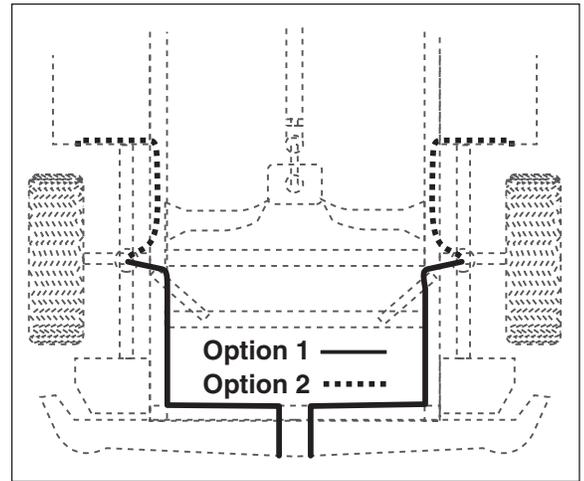

Figure 3
8. Select location on the vehicle for the air inflation valves (Figure 3). The location can be on the bumper or on the body of the vehicle, but be sure that it is protected so that the valve will not be damaged and will still be accessible for the air chuck.